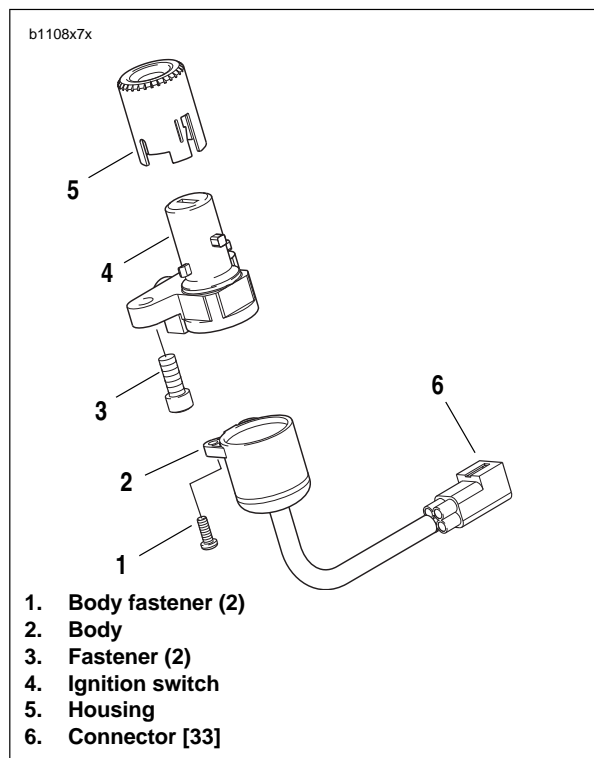

Figure 7-5. Ignition Switch Assembly
10. Remove the upper fork clamp (4) from forks.
11. See Figure 7-5. Use Snap-on Tamper-Resistant T45 Torx driver, Part No FTXR45E to remove ignition switch fasteners (3) securing ignition switch (4) to upper fork clamp. Slide ignition switch out of upper fork clamp.
1. See Figure 7-5. Remove ignition switch housing (5) from ignition switch (4) by prying tabs on side of housing
2. Remove ignition switch body fasteners (1). Separate ignition switch body (2) from ignition switch (4).
See Figure 7-5. In next step, be sure wide slot in ignition switch housing (5) is installed over wide boss on ignition switch (4).
1. Push ignition switch housing (5) on to ignition switch (4).
2. See Figure 7-5. Attach ignition switch assembly to upper triple clamp using ignition switch fasteners (3). USE LOCTITE 271 (red) on fasteners. Tighten to 18-20 ft-lbs (24.4-27.1 Nm).